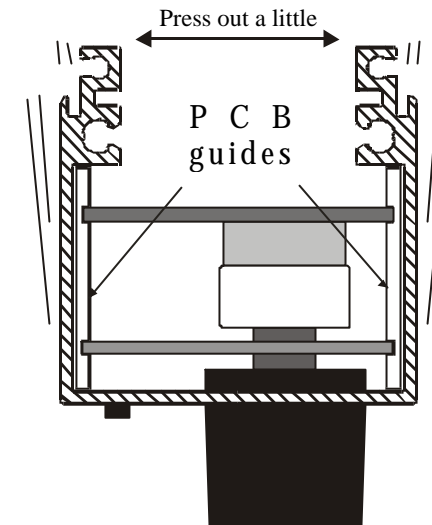

Fig. 5: Front profile shown from the VALUE knob end.
8. At the end with the VALUE knob, pull out the two white PCB guides. Opening up the profile a little will lighten the pressure at the PCB guides, see fig. 5.